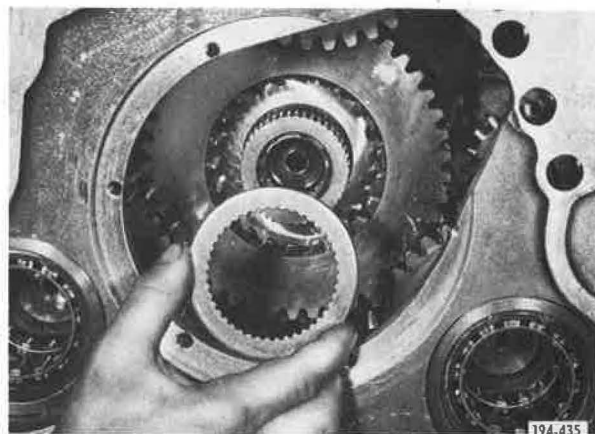

Figure 5-936. Installing Thrust Washer
27. Through rear case front opening, install Hi-range gear front thrust washer. See Figure 5-936.